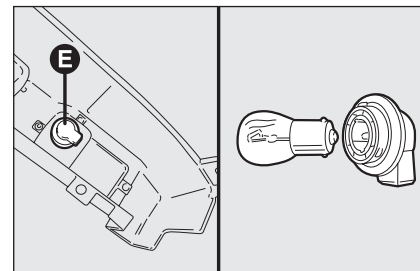

fig. 30d
- ☐ turn bulb holder **E** anticlockwise (1/8 turn), remove the bayonet bulb by pressing in slightly and turning anticlockwise, then replace fig. 30d.